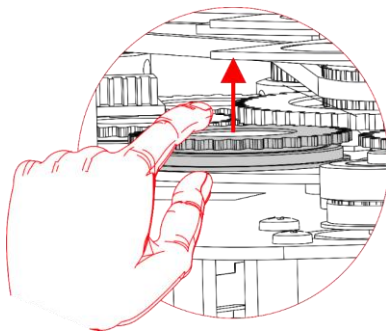
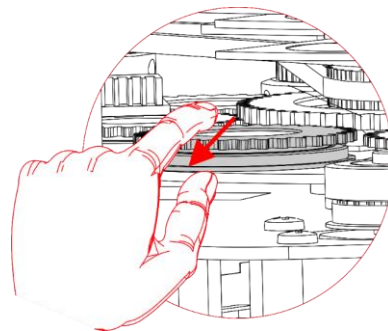

Fig. 15
Fig. 16
- 06) Gently lift the gobo holder a bit up and pull it out from the rotating gobo wheel, as shown in Fig. 15 and Fig. 16.